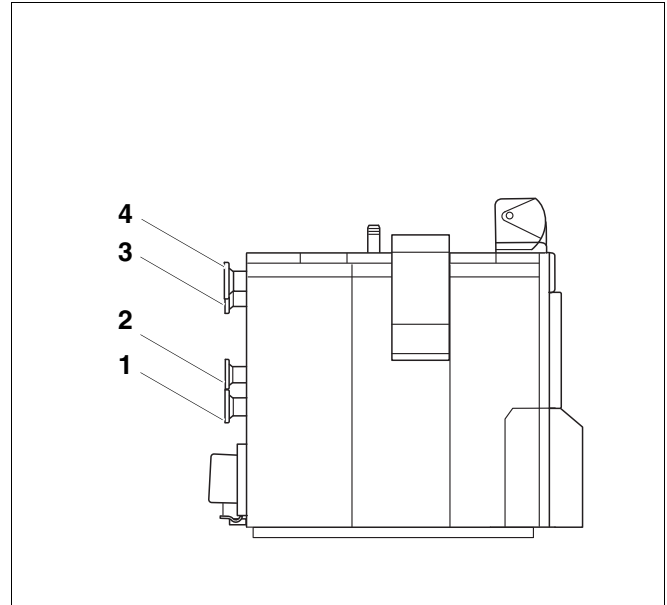

Fig. 24 Logano plus SB735 Gas boiler
- Connect the heating system flow to the boiler flow connection (Fig. 24, [4]).
CAUTION!	<p>SYSTEM DAMAGE</p> <p>by connecting incorrect components to the flow safety line!</p> <ul style="list-style-type: none"> <li>● Never connect a DHW cylinder or other heating circuit to the flow safety line (Fig. 24, [3], page 30).</li> </ul>